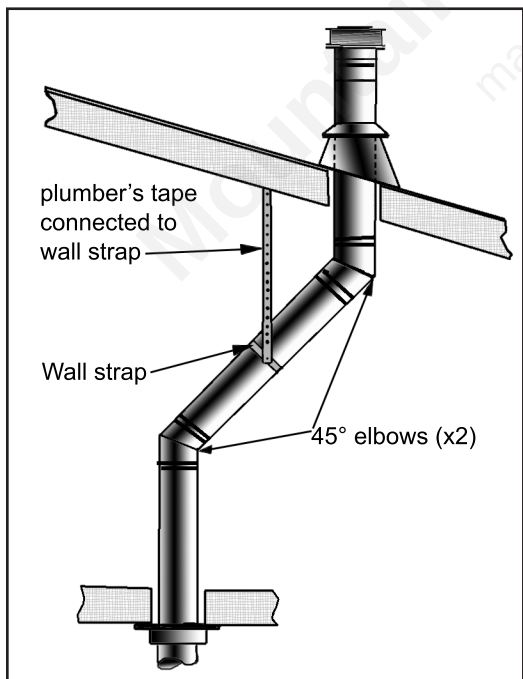

**Figure 31: Height of Vertical Termination;
8. Continue to add pipe sections until the height of the vent cap meets the minimum code requirements. Refer to Figure 31 and Table 6. Note that for steep roof pitches, the vent height must be increased. In high wind conditions, nearby trees, adjoining roof lines, steep pitched roofs, and other similar factors can result in poor draft, or down drafting. In these cases, increasing the vent height may solve the problem.
**Table 6: Minimum 'H' for Figure 31.**